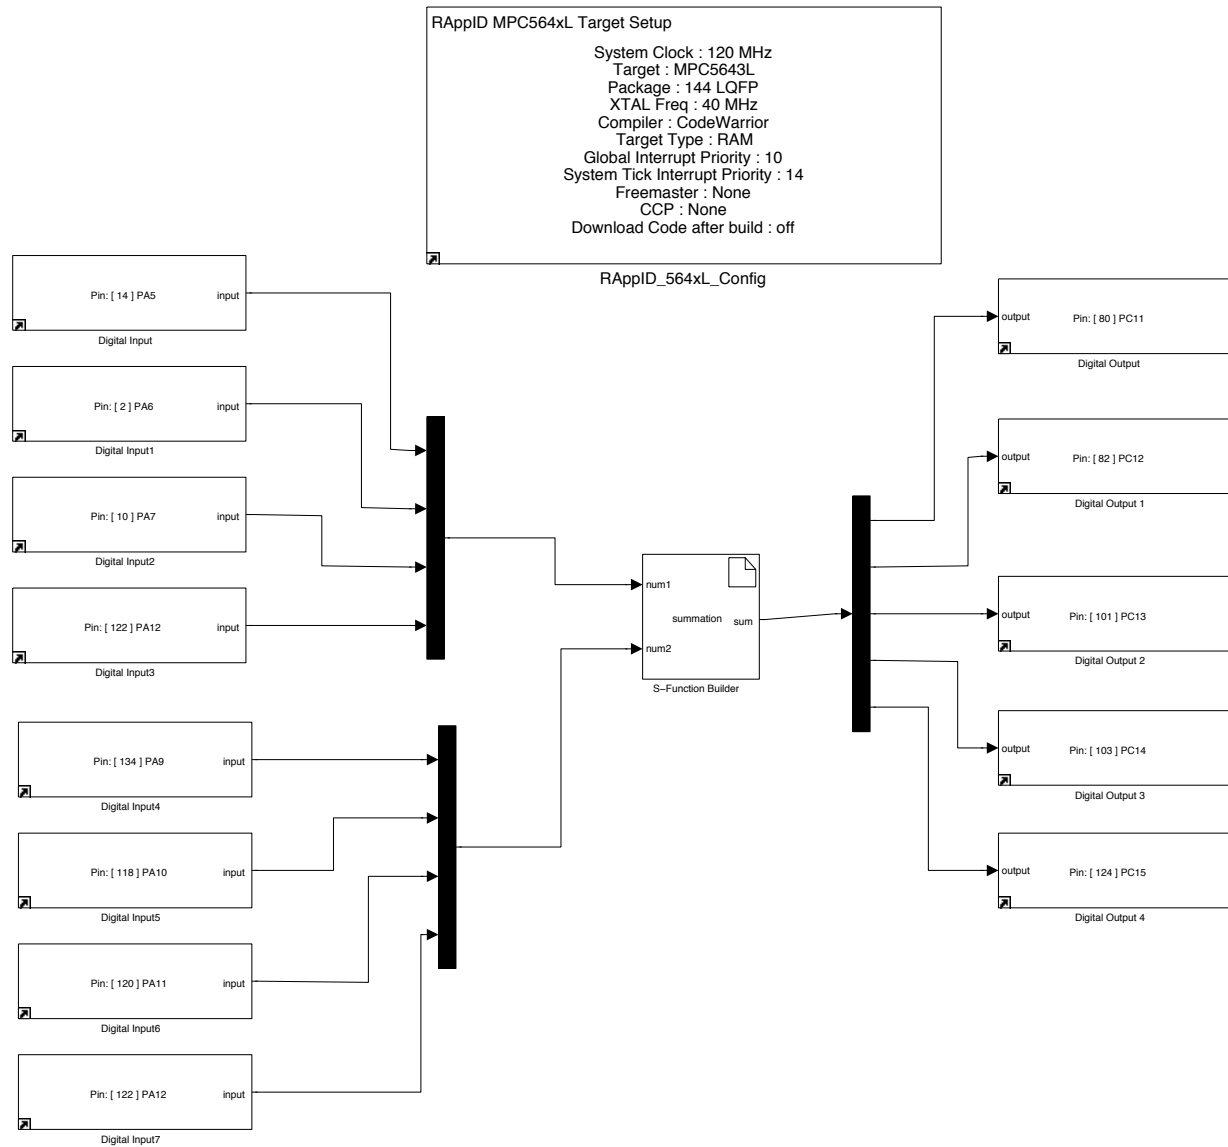

Figure 9
11. Rebuild your s-function in the EECS 461 lab, thus using the Microsoft Windows SDK 7.1 (C) compiler.
13. You will now incorporate the Motor Control Toolbox blocks provided on the lab computers in your model. Replace all of the Constant Blocks with Digital Input Blocks. Replace all the Display Blocks with digital Output Blocks. Select the appropriate pin for each block by double clicking on each block. Next, add the RAppID Initialization Block to your model. See Figure 9 for reference.